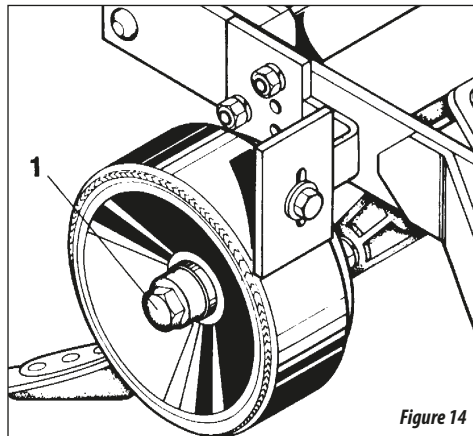

Figure 14
- 06 - Remove the cap figure 14 item 1;